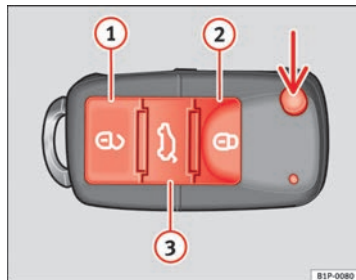

Fig. 62 Assignment of buttons on the remote control key
Using the button \Rightarrow Fig. 62 (arrow) on the control, the key blade is released.
Unlocking the vehicle \Rightarrow Fig. 62 ① .
Locking the vehicle \Rightarrow Fig. 62 ② .
Unlocking the rear lid. Press button \Rightarrow Fig. 62 ③ until all the turn signals on the vehicle flash briefly. When the unlocking button \Rightarrow Fig. 62 ③ is pressed, you have 2 minutes to open the door. Once this time has passed, it will lock again.
Also, the battery indicator on the key \Rightarrow Fig. 62, will flash.
When the button \Rightarrow Fig. 62 ① , is pressed once, the driver door is unlocked, all others remain locked.
Press the button \Rightarrow Fig. 62 ① twice to unlock all doors. ▶
- Press the  ⇒ Fig. 62 button on the remote control.